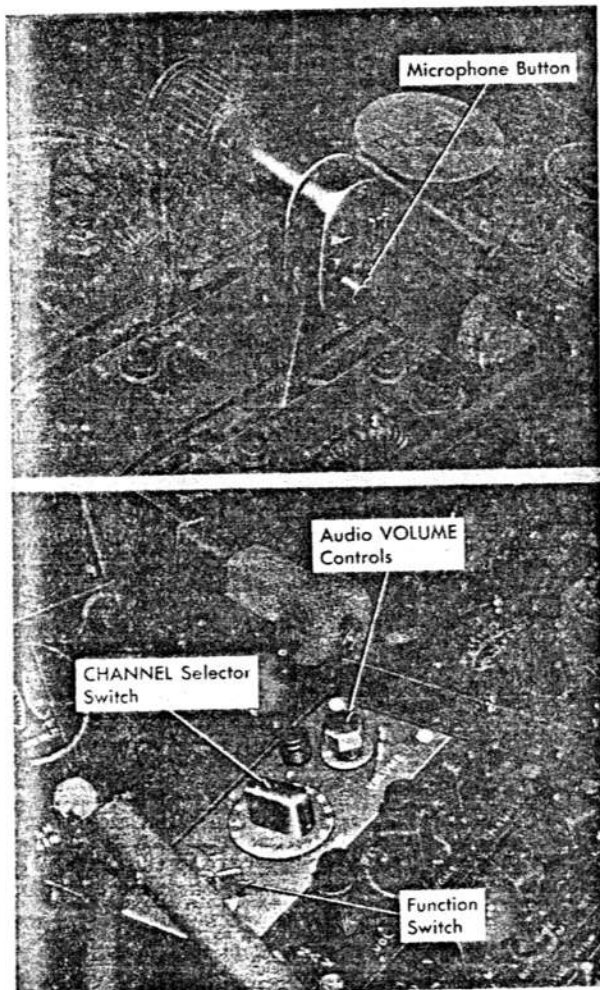

Figure 4-5. AN/ARC-27 Controls
**FUNCTION SWITCH.** The function switch (figure 4-5) has four positions as follows:
**CHANNEL SELECTOR SWITCH.** The CHANNEL selector switch (figure 4-5) permits selection of any one of eighteen preset frequencies.
**AUDIO VOLUME CONTROL.** The audio VOLUME control (figure 4-5) adjusts the amplitude of the audio signals delivered to the headset circuit.
**MICROPHONE BUTTON.** The microphone button (figure 4-5) is located on the right-hand engine throttle and is depressed for transmission.
GENERAL. This equipment provides a continuous indication of the relative direction of arrival of r-f signals (A-A Homing). The equipment must be used with the AN/ARC-27 radio set. It is operated entirely from the AN/ARC-27 controls (figure 4-5). The con-